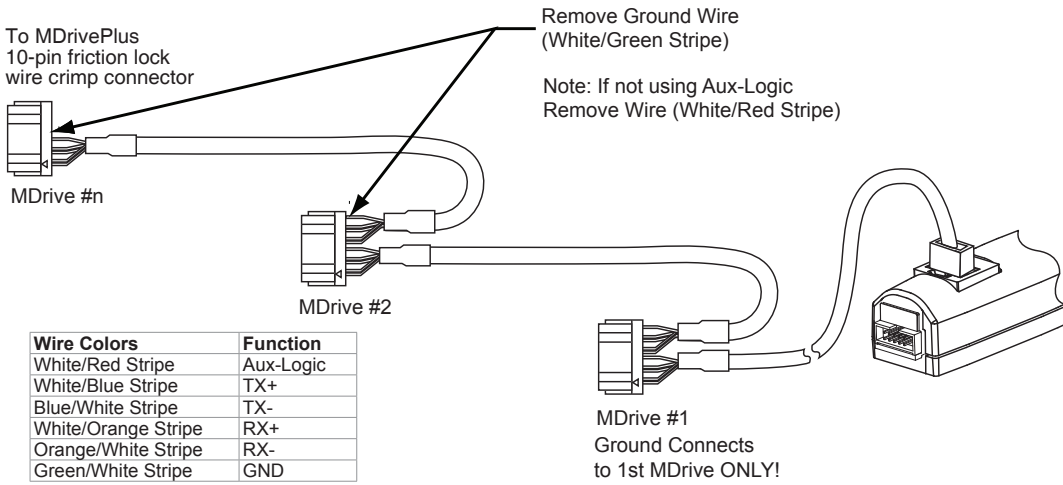

Figure F.7: Configuring the MD-CC402-001 for Multi-drop (Party Mode) Communications
- 8) On the Dialog for Windows Logo Compatibility Testing, click “Continue Anyway” (Figure F.7).